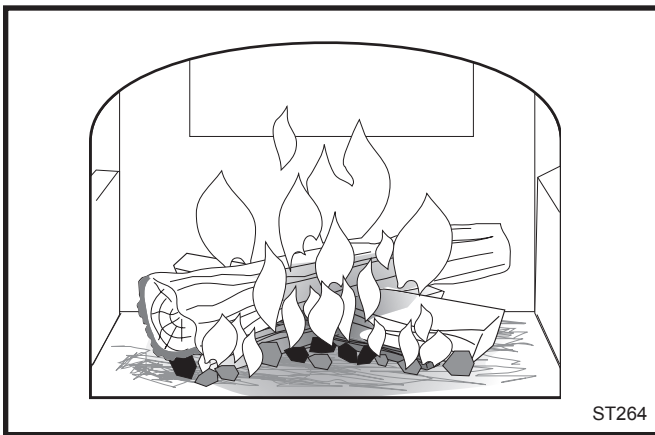

Fig. 26 Add larger pieces of wood as the fire begins to burn well.
4. If your Intrepid II has been broken-in previously using Steps 1-3, continue to build the fire gradually. Add larger wood with a diameter of 76 - 102 mm (3-4"). (Fig. 26)